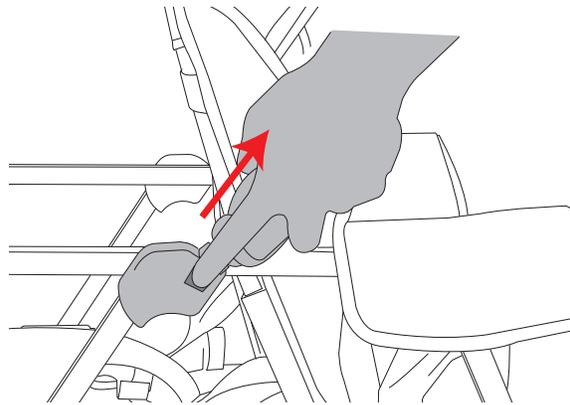

Figure 9
- To remove the canopy, press the lock button on the side of each of the male fittings while pulling upward on the canopy frame. See Figure 9.